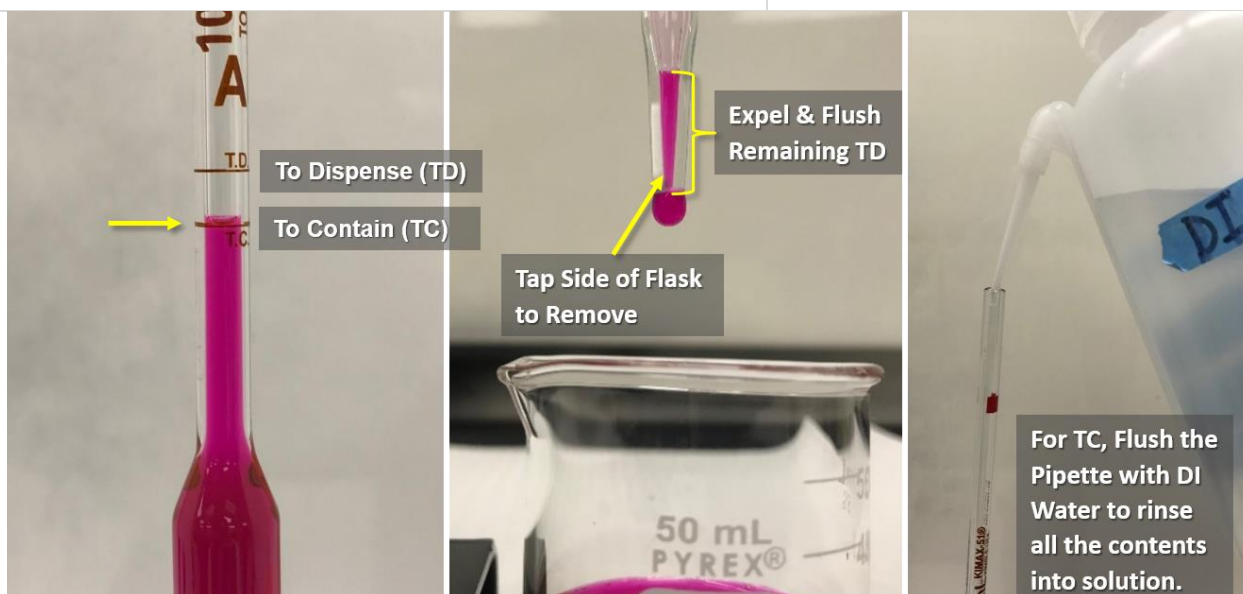

Figure 86. Dilute 5 mL of Stock Solution into 1000 mL Flask and Bring to Volume with DI Water
**STEP 2** | Pour a small amount of stock solution into a small beaker. Prime the pipette with stock solution first. Discard this solution into a waste beaker. Then transfer 5 mL of stock solution into the 1000 mL (1 Liter) flask using the primed volumetric pipette. Fill the pipette to the “TC” (To Contain) line. Dispense into the 1000 mL flask. Use a rinse bottle with fresh DI water to flush the remaining contents in the pipette into the flask. Fill the 1000 mL flask to volume with DI water (Figure 86). Gently invert the flask three times to mix the solution dilution (Rhodamine is more viscous than water).